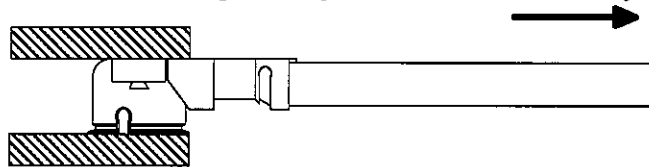

Fig.5
(2) Crimp strength / 引張強度
A. Testing : Pull the cable as shown in Fig.5 at a speed 25 ± 3 mm/minutes by tensile strength machine.